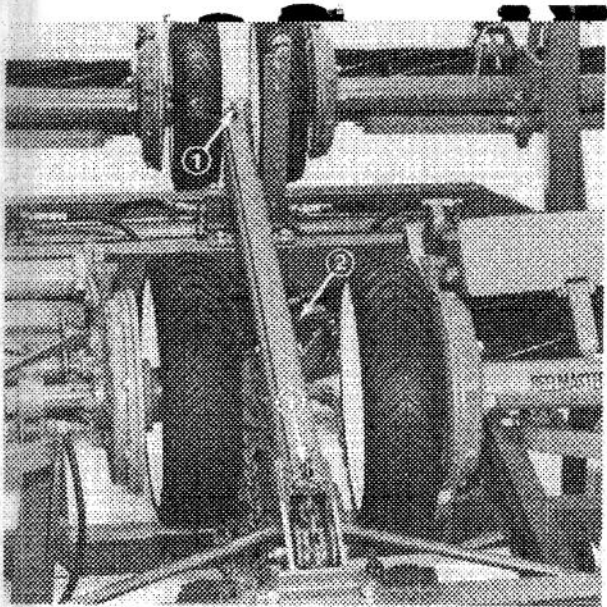

Figure 20
2. Remove (4) hairpin cotters securing transport straps to center frame channel and lift off straps (Fig. 20).